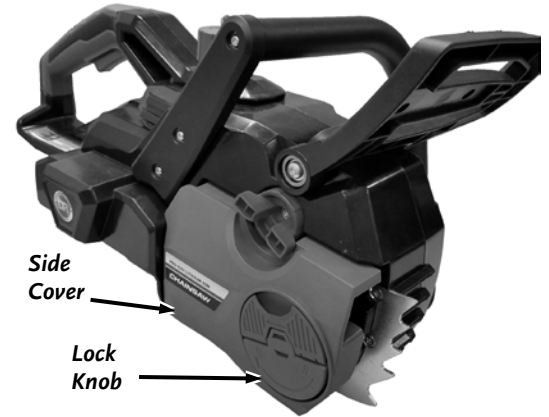

Figure 5
2. Remove the Side Cover by turning the Lock Knob counter clockwise (**Figure 5**).